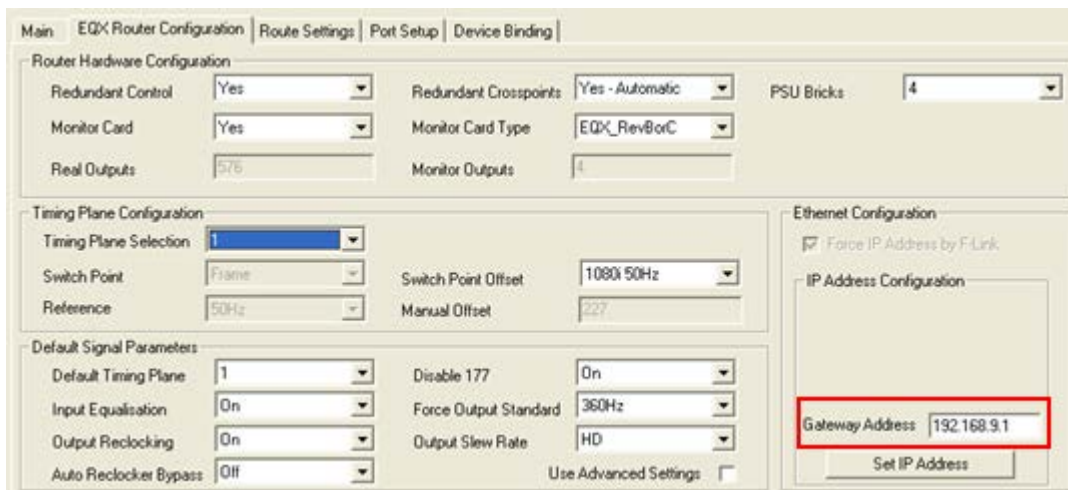

Figure 10-12 : Ethernet Configuration Step 1
Step1 -The first step is to define the gateway address as shown in Figure 10-12.